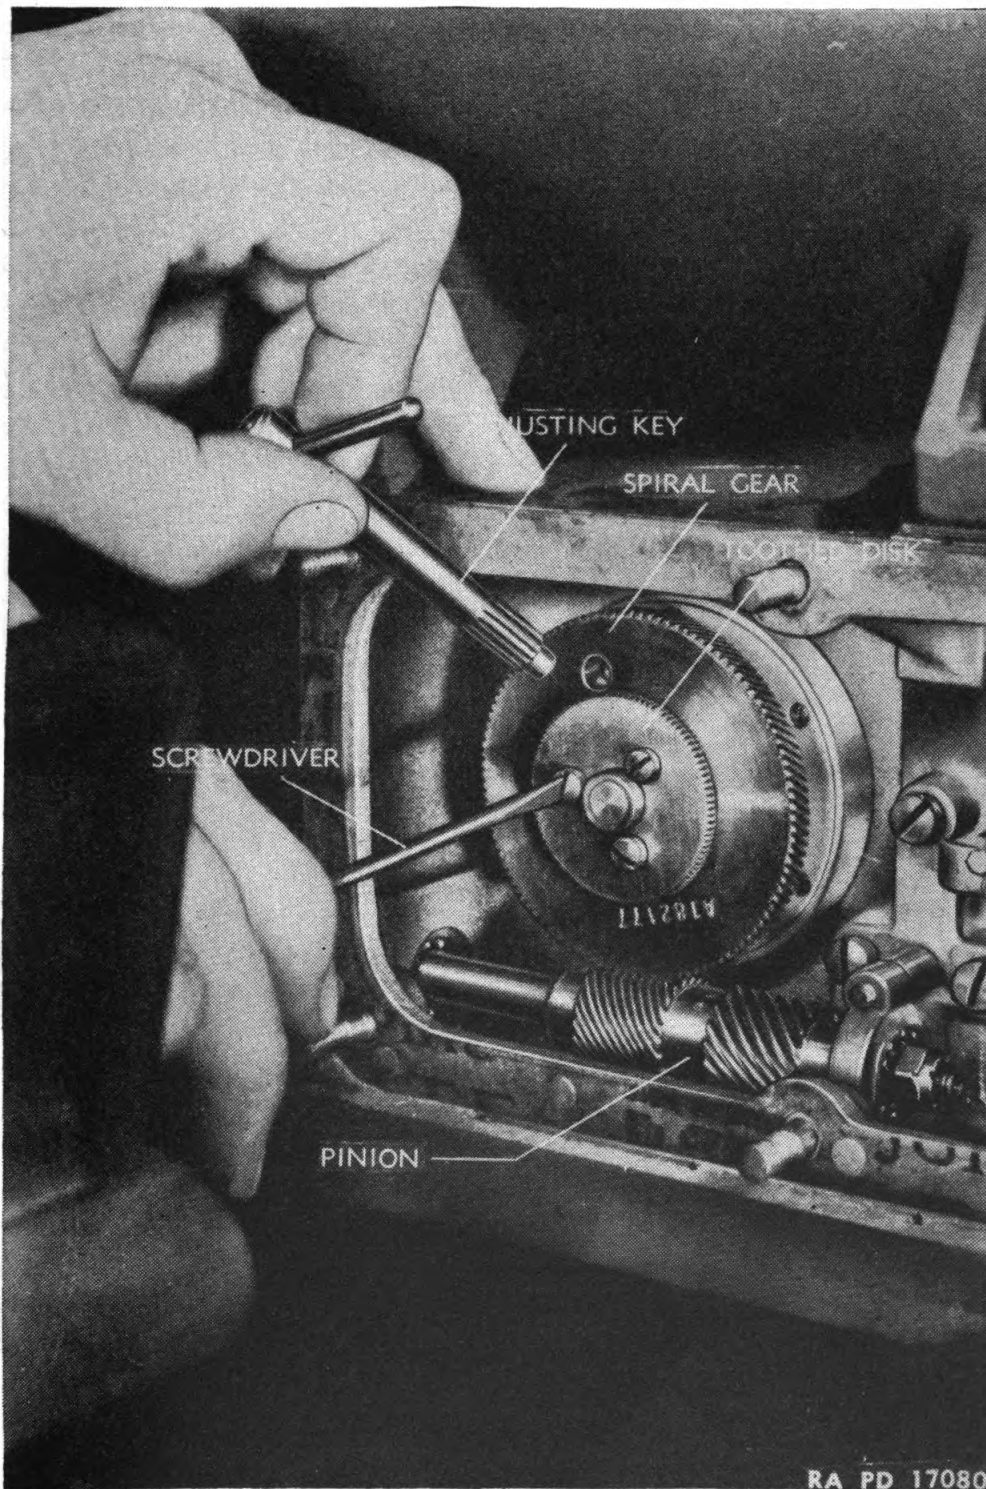

FIGURE 104.—Adjustment of resetter transmitter spiral gear.
*b. Replacement of oil gear units.*—(1) Disconnect the three leads to the electric motor by removing the terminal well cover plate on the top of the motor and loosening the three terminal screws. Note the lead markings (mark the leads if there are no lead markings) to insure that the leads can be reconnected to their corresponding terminals. Remove the four screws securing the conduit elbow to the motor housing and withdraw the wires from the terminal well.
(2) Remove the left cover plate of the transmitter and electrical differential assembly, exposing the terminal screws. This cover is on the same side as the clutch lever. Disconnect three leads (R1, R2, R3) to the differential and two leads (X, Y) to the resetter transmitter by loosening the terminal screws. Do not disconnect the interconnecting leads (S1, S2, S3, and 1, 2, 3). Note the lead markings (mark the leads if there are no lead markings) to insure that the leads can be reconnected to their corresponding terminals. Remove the three screws securing the conduit box to the housing and withdraw the wires from the housing.
(3) Remove the four bolts securing the oil gear to the carriage, and the single bolt at the rear of the electric motor. Remove the oil gear by pulling it forward from the front of the carriage, being careful not to damage the drive shaft or coupling mechanism.
(4) Note that in replacing a unit, a distinction must be made between the azimuth oil gear and the elevation oil gear. Although both units are similar in outward appearance, they cannot be interchanged as their gearing ratios are different. The azimuth unit has a 64-tooth spiral gear (A182178) on the resetter transmitter, while the elevation unit has a 108-tooth spiral gear (A182177). Also, a different pinion meshes with these gears in each unit. In the absence of accurate name plate data, the unit can be positively identified by removing the adjusting side cover (this cover is on the same side as the filter cap) and counting the teeth on the resetter transmitter spiral gear.
(5) Mount the replacement oil gear on the carriage, pass the cable leads into the corresponding openings, and secure the conduit fittings. Be sure to insert the gaskets under the cable adapters. Connect the leads to the correspondingly marked terminals, and tighten the terminal screws securely. Replace cover plates with their gaskets. Use new gaskets if necessary.
(6) When replacing the elevation oil gear, it will be necessary to adjust the resetter transmitter. This is done before replacing the adjusting side cover. To adjust (fig. 104), loosen the three screws in the central toothed disk which secures the spiral gear to the resetter transmitter. Energize the system, and set the director telescopes to exactly  $45^\circ$  elevation. By use of the adjusting key (*g* below) turn the toothed disk until the elevation of the gun as checked by the gunner's quadrant is exactly 800 mils ( $45^\circ$ ). Tighten the three screws to retain the adjustment.
(7) It is not necessary to adjust the resetter transmitter of the azimuth oil gear, as the equivalent adjustment is performed during the orienting operation.
Adjusting key (for adjusting resetter transmitter, fig. 104).